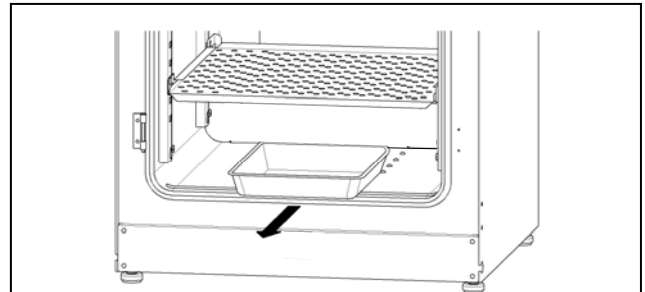

Fig. 1
1. (MCO-18AC(UV) or when an optional UV system kit MCO-18UVS3 is installed) Lift the humidifying pan cover. After that pull the humidifying pan forward. (See Fig. 1.)